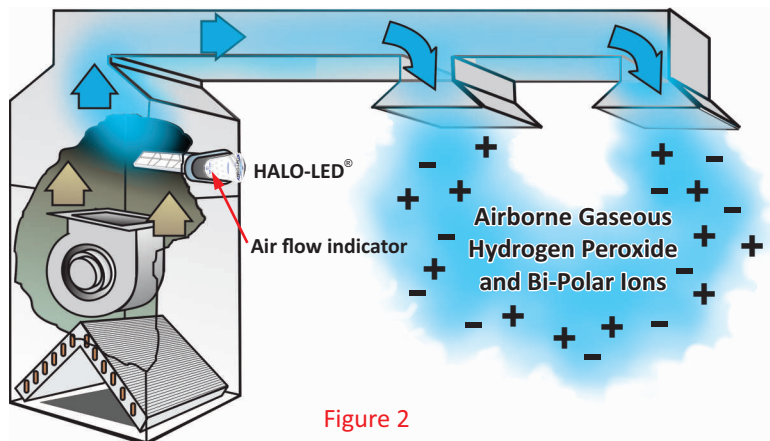

Figure 2
- To maximize the effectiveness of the HALO-LED®, it is recommended, whenever possible, to install the HALO-LED® unit in the air plenum just after the air handling unit (supply side). Refer to **Figure 2**. Ensure air switch, near base of LED unit, is positioned in positive air flow path.